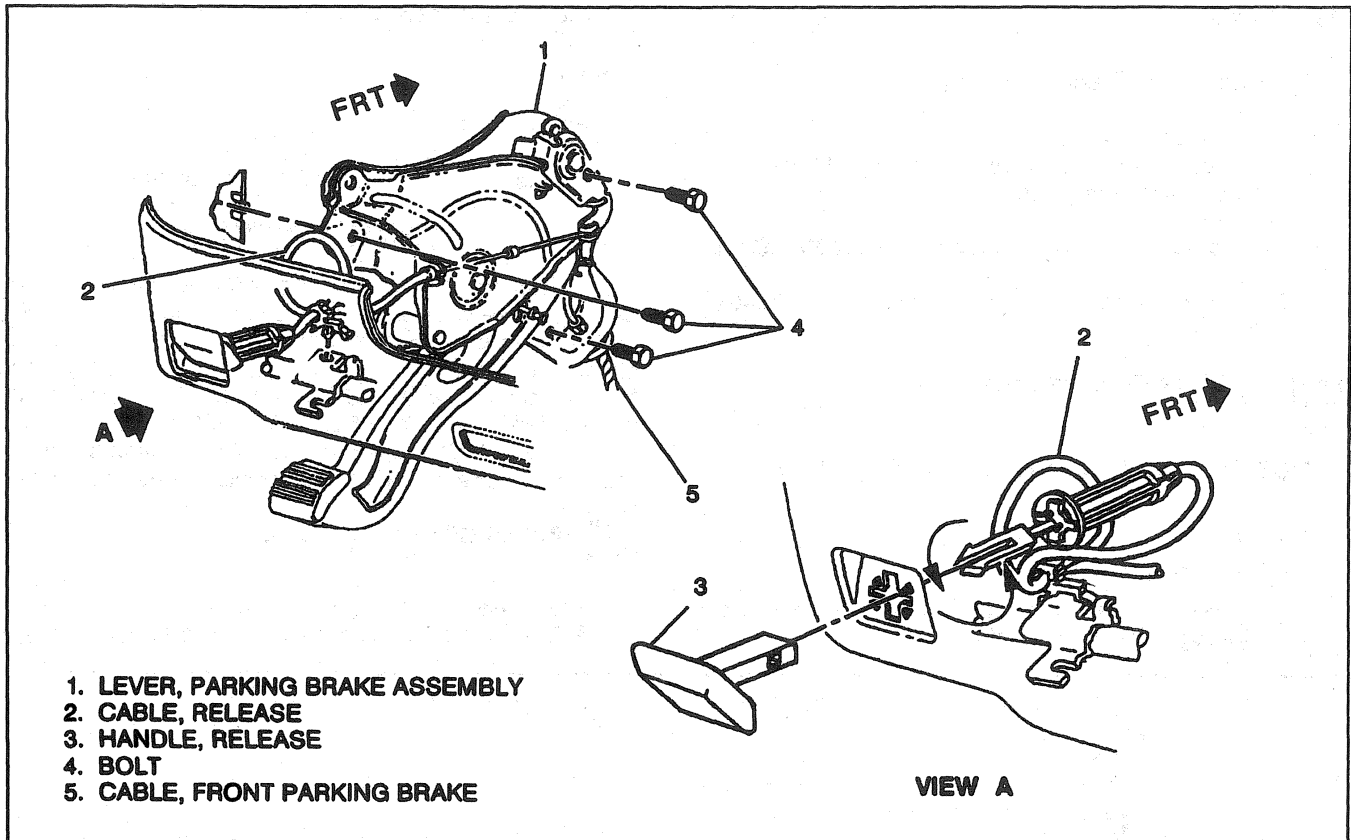

Figure 1—Parking Brake Lever
Remove or Disconnect (Figure 1)
3. Release cable (2).
4. Handle (3).
5. Bolts (4).
6. Lever assembly (1).
**Install or Connect (Figure 1)**